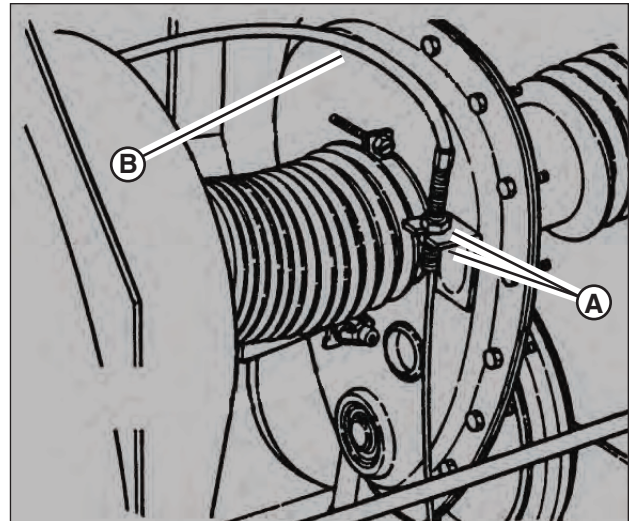

Figure 40: Brake cable adjusting nuts
3. If the measurement is less than 1/2" or greater than 3/4", loosen the two jam-nuts (A, Figure 40). Hold the clutch/brake cable (B) to the chain case bracket.